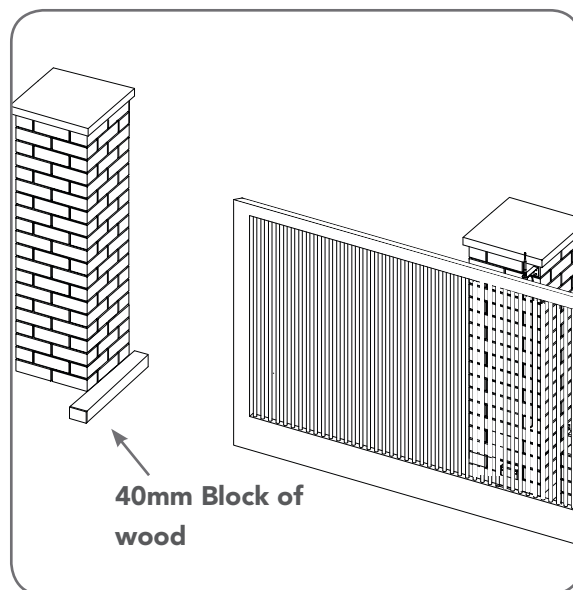

Fig 9.1
- Place a piece of timber approximately 40mm wide on the ground directly next to the closing pylon / fence (**Fig. 9.1**).